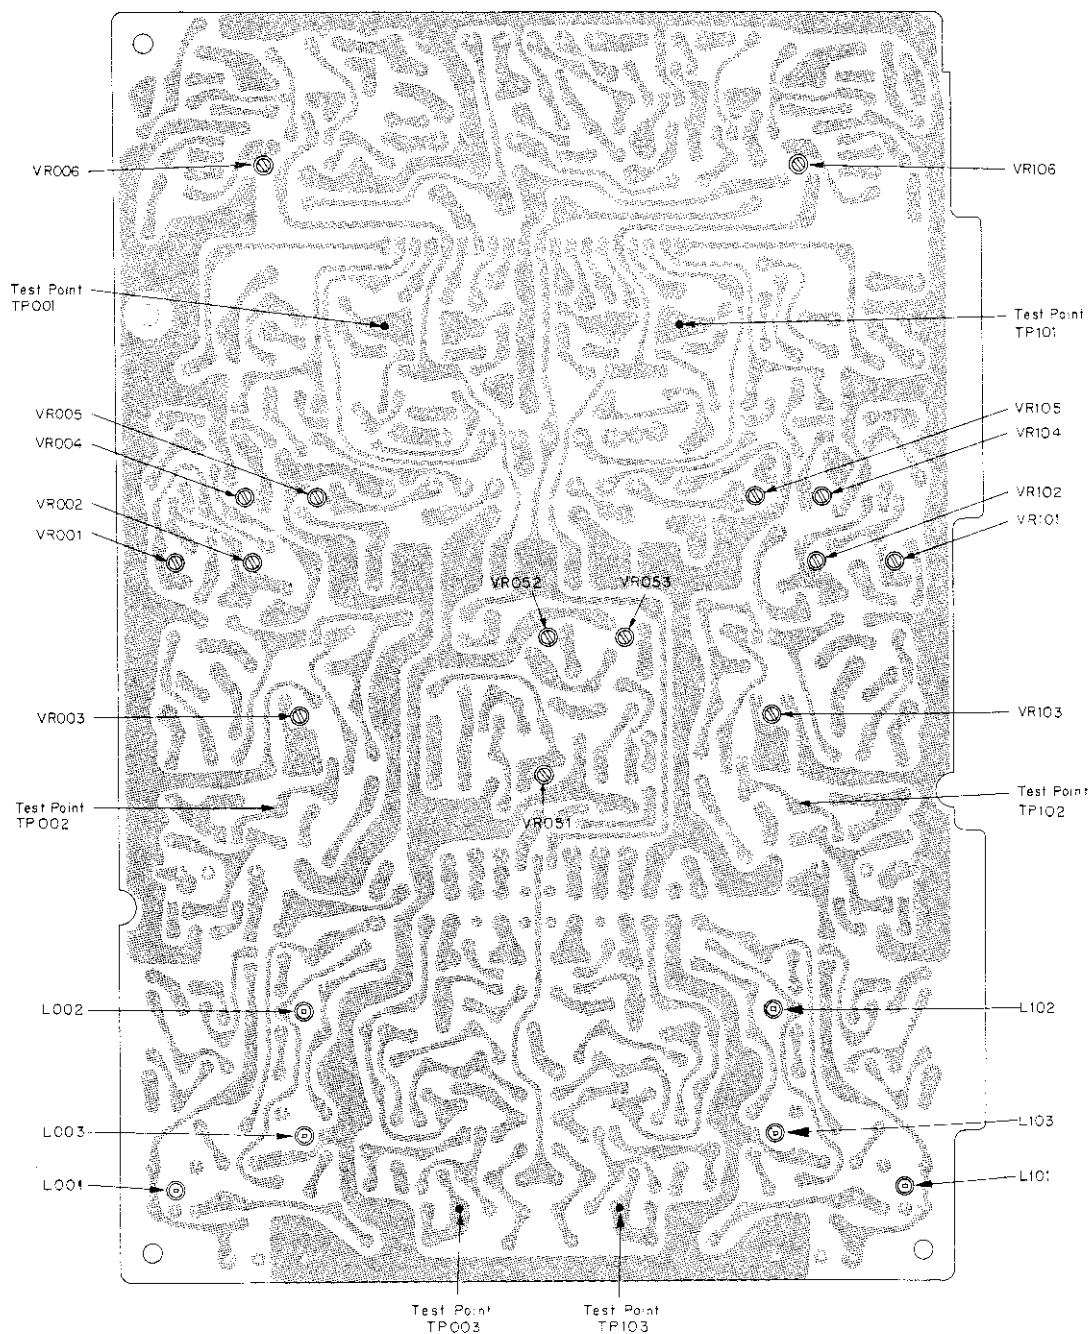

Figure 15. Location of Pre-amplifier P.C. Board
- See figures 15 and 16.
4. Set Test Tape (No. MTT-150 DOLBY B-TYPE TONE, 200nWb/m), and push the Play Button, and adjust the Semi-fixed Resistors (VR004, 104) so that the VTVM indicates 580mV. See figures 15 and 18.
3. Set Test Tape (No. MTT-150 DOLBY B-TYPE TONE, 200nWb/m), push the Play Button, and adjust the Semi-fixed Resistors (VR006, 106) so that the Level Meter indicates Dolby mark ($+3\text{dB}\pm0.1\text{dB}$). See figures 15 and 19.
3. Turn the Tape Selector Switch ON (CHROME) and playback the Test Tape (No. MTT-115, 6.3kHz/333Hz), then adjust the Semi-fixed Resistors (VR001, 101) so that the output level at 6.3kHz is -4.5dB for reference output level at 333Hz. See figures 15 and 20.